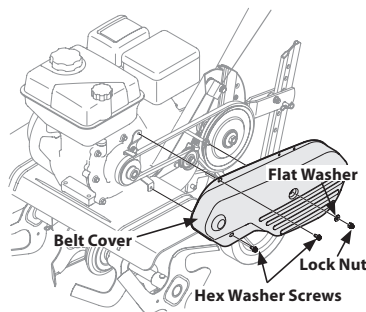

Figure 19
2. Remove the belt cover from the left side of the tiller by removing the two hex washer screws and the lock nut and flat washer. See Figure 19.